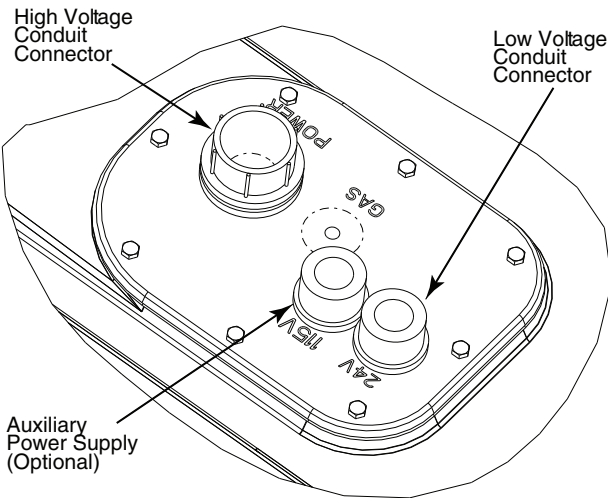

Fig. 26 — Thru-Base Connection Fittings
The 3/4 in. bulkhead connector enables the low-voltage control wires to pass through the basepan. The 1/2 in. bulkhead connector allows the high-voltage power wires to pass through the basepan. See Fig. 26.
3. Place the gasket over the embossed area in the basepan, aligning the holes in the gasket to the holes in the basepan. See Fig. 26.